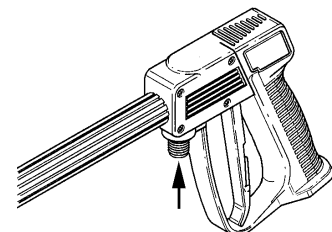

fig 3
- 3.2.2. Connect the trigger assembly to the high pressure hose and tighten with a 17mm spanner (fig 3).